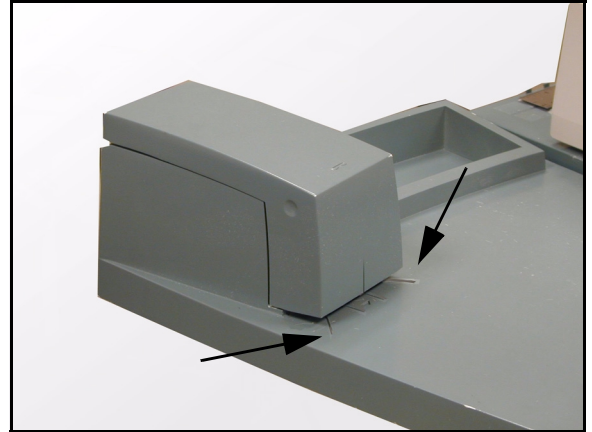

Figure 9: Paper guides
- 2 Slide the set under the staple head using the diagonal or straight marks on the stapler base as a guide. These diagonal or straight marks are the paper guides, Figure 9.